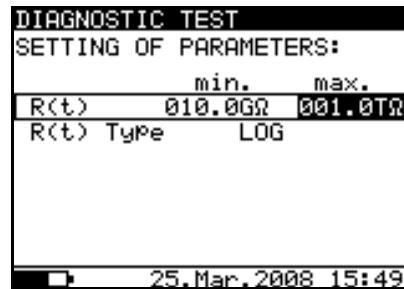

Fig. 28: Setting of graph R(t) parameters
7. The Timer value could be very long (up to 30 minutes), so the special automatic decimation algorithm (LOG) is use to write the Graph R(t) at display (see Fig. 28)